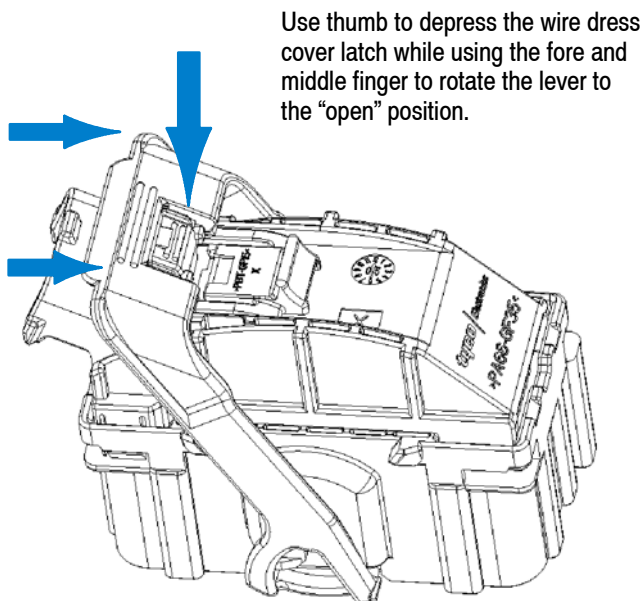

Figure 9
2. Depress the wire dress cover latch that retains the lever while at the same time rotating the lever back to the open position to disengage the plug assembly from the header. See Figure 9.